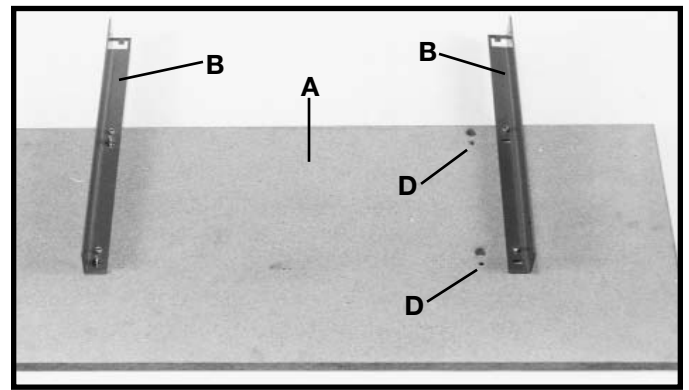

Fig. 16
1. Place front table board (A) Fig. 16, on a stable surface with counter-bored holes facing down, as shown.
2. Fasten left and right table supports (B) Fig. 16, to bottom of front table board (A) as shown, by inserting four 1/4-20x1" round head screws up through counterbored holes (D), in table board (A) and table supports (B). Secure in place using four 1/4-20 flanged hex nuts. Do not completely tighten nuts at this time.